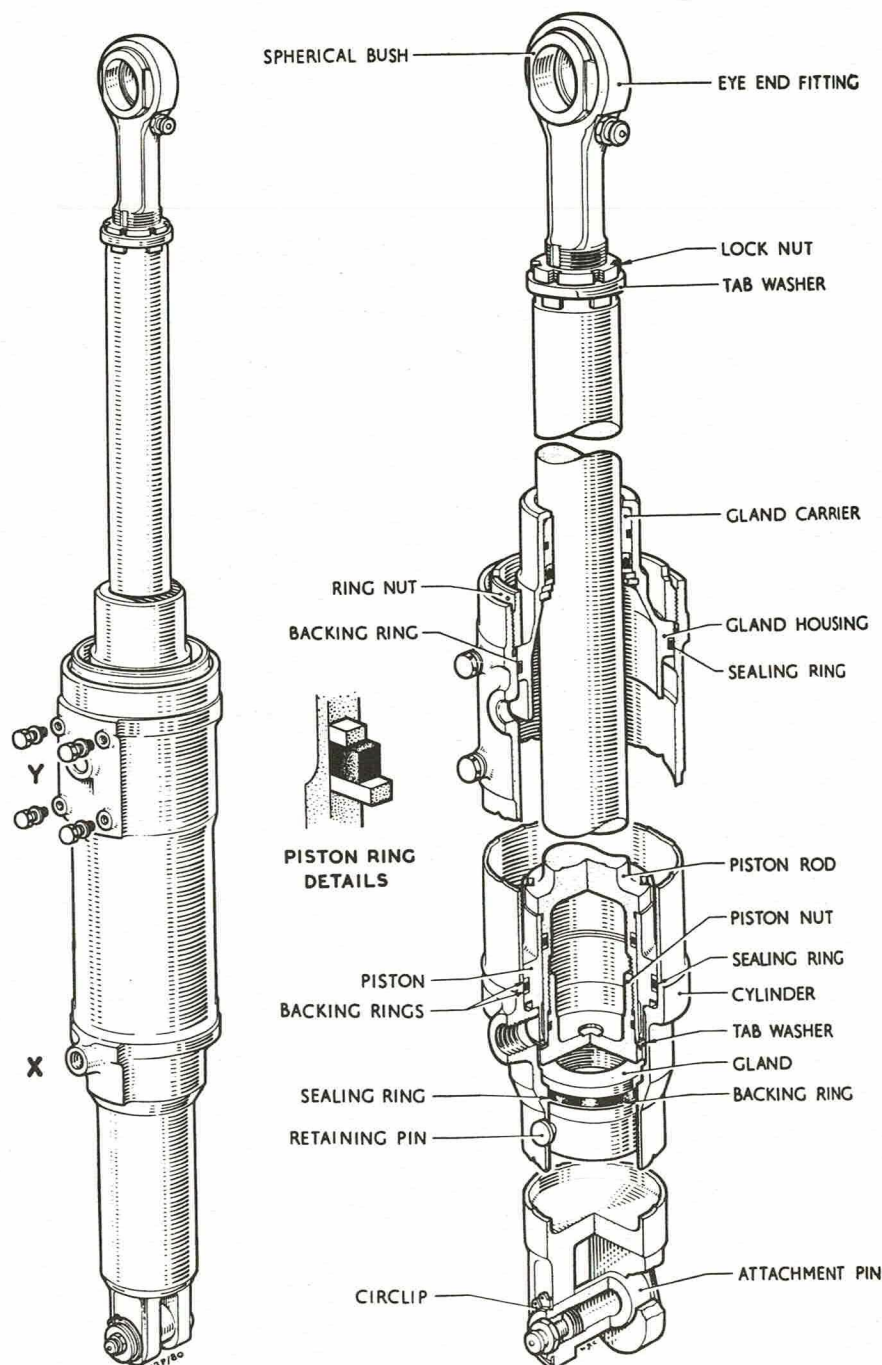

Fig. 1 Main undercarriage jack
Description (fig. 1)
6. With the jack in the closed position fluid enters port X (fig. 1) and passes through the hole in the extension piece to act on the full area of the piston nut and piston rod to extend the jack.
(1) Fit the sealing and backing rings to all parts, refer to fig. 1 for their relative positions. Take care not to overstretch the rubber rings.
(2) Insert the gland carrier into the gland housing, chamfered face leading; take care